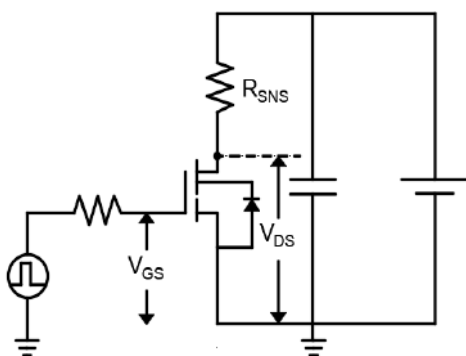

Figure 18. Dynamic  $R_{DS(on)}$  Test Circuit
- Dynamic on-resistance; see Fig. 18 and 19 for test circuit and conditions